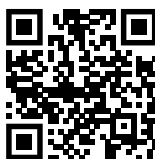

Fig. 122
► Avaa [Liebherr SmartMonitoring Dashboard](https://smartmonitoring.liebherr.com). (katso Fig. 122)